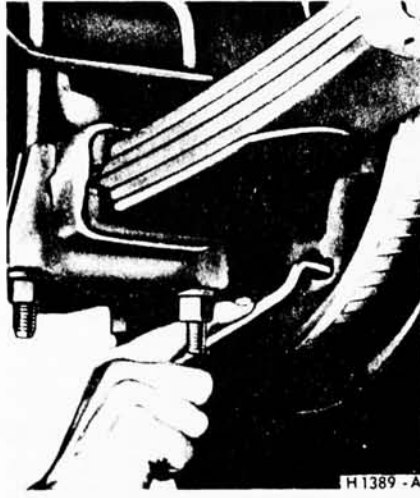

FIG. 14—Expanding Brake Shoes
2. Remove the adjusting hole cover from the carrier plate and, from the carrier plate side, turn the adjusting screw upward to expand the shoes (Fig. 14). Expand the shoes until a drag is felt when the drum is rotated.